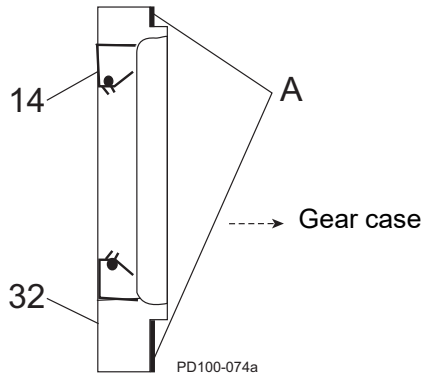

Figure 58 - Install Bearing Retainer
18. Coat the retainer flanges with silicone sealant (Figure 58, item A). (Gore-Tex® sealing tape can be used on silicone free models.) The grease seal (item 14) will be flush with the front of the bearing retainer. On 030 models, the grease seal will be against the step on the inside diameter of the retainer.
19. Install the bearing retainers (Figure 58, item 32).